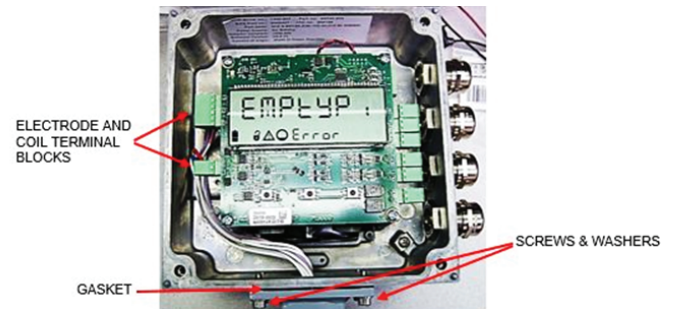

Figure 1: M5000 junction box
2. Using the 4 mm or 5/32 in. bit and electric driver, remove the bottom four bolts and washers from the amplifier and slide the detector away from the amplifier making sure the gasket is not lost. See Figure 1.